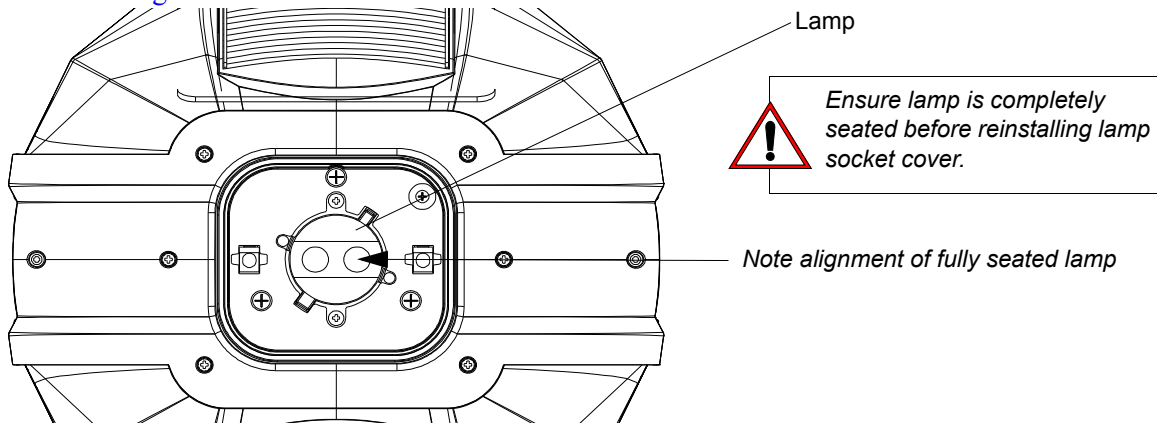

Figure 2-3: Installed Lamp
- Step 9. Turn lamp clockwise to seat lamp into socket. Lamp base should be aligned as illustrated in Figure 2-3.